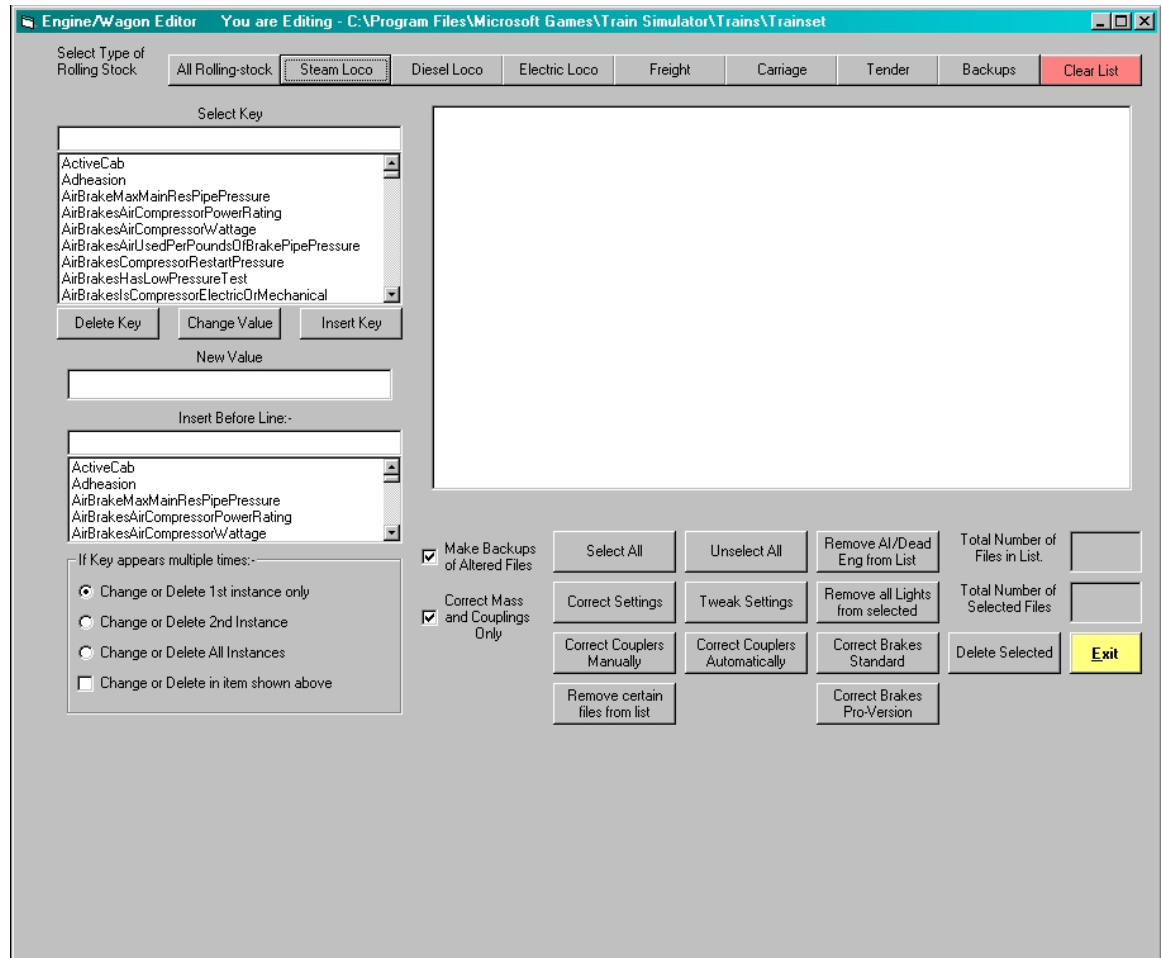

Figure 4
3. Left-click the "*ENG/WAG file Editor*" button. You should now see the editor as in Fig. 4.